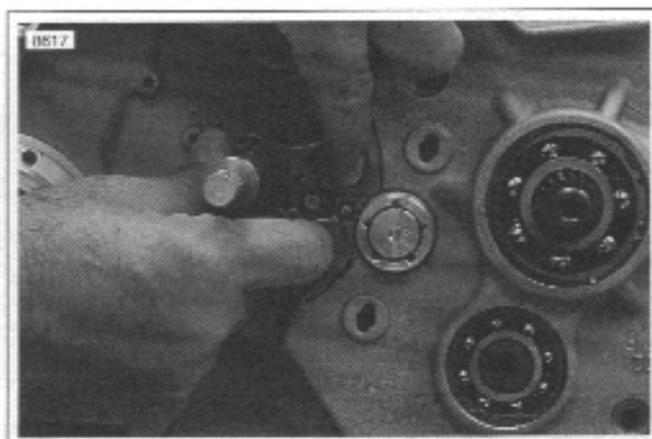

Figure 6-86. Installing Shifter Shaft Assembly
2. See Figure 6-86. Depress ratchet arms and insert shaft assembly into the bushing in the left case half and release. Ratchet arms should now be inside the end plate of the shifter drum contacting the shifter drum pins.